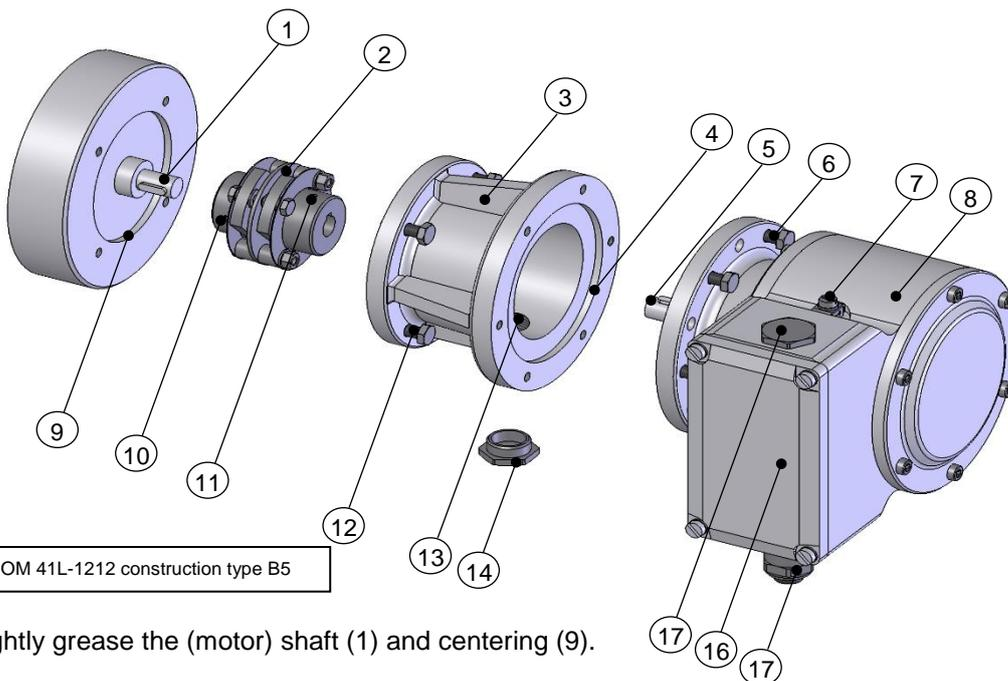

Fig.1: UOM 41L-1212 construction type B5
1. Open the terminal box cover (16, Fig. 1:)